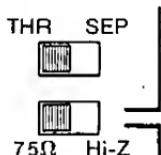

Fig. 1
When a single video signal is supplied to the Input A Connector (5) or Input B Connector (10), set this switch to THR position (Fig. 1). This will provide six (6) identical and isolated outputs to the Output A Connector (6) and the Output B Connector (7). The Termination Switch (11) should be set to  $75\Omega$  position (Fig. 1).